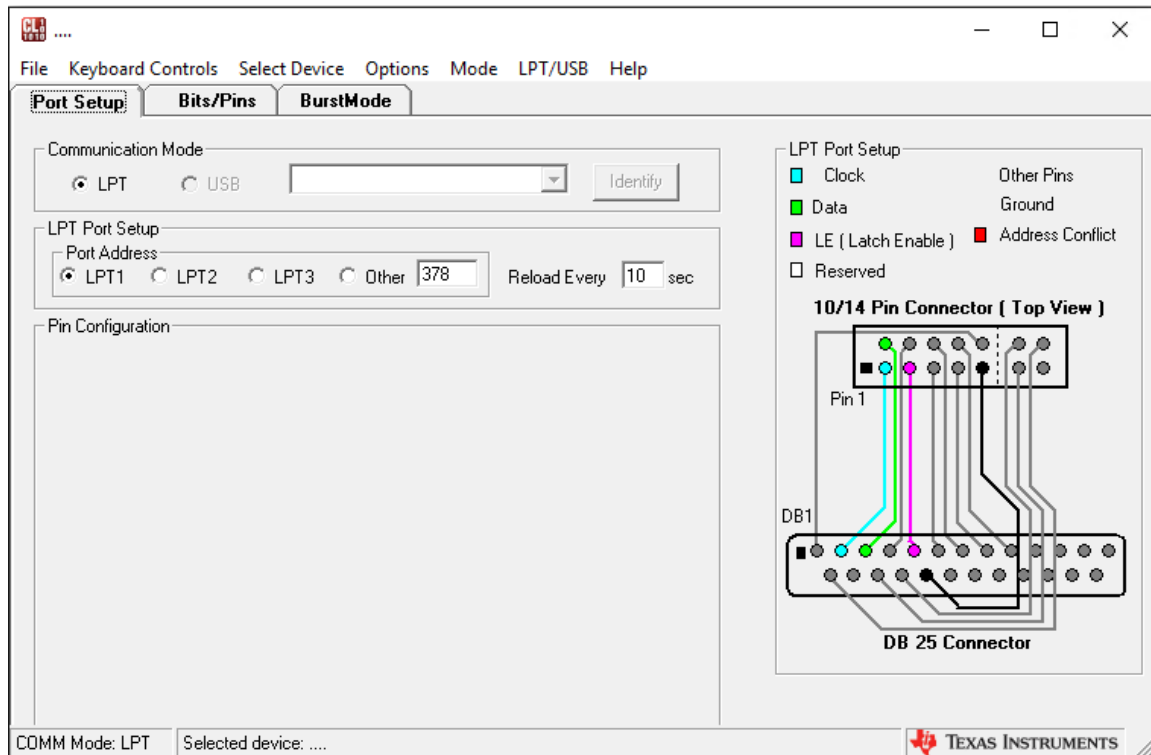

Figure 5-9 CodeLoader
5. Firstly, download “CodeLoader” Software(See **Figure 5-9**), which is provided by TI. This tool can help users to set the LMK04096B's output frequency of each channel through the GUI interface, and it will automatically calculate the Register parameters required for each frequency. The tool download link: